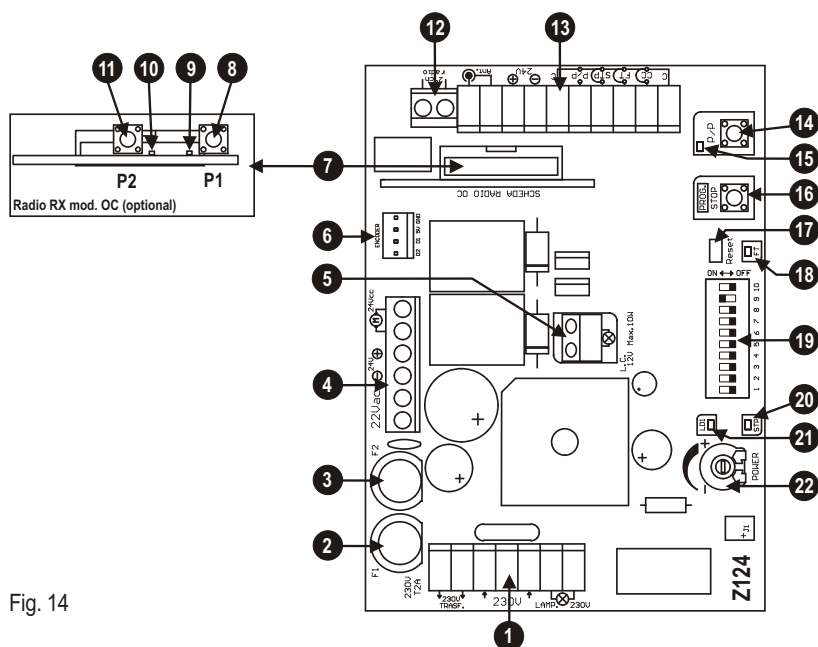

Fig. 14
- 1) Keep the PROG key pressed. Use a screwdriver to short the jump Reset (detail 17 of fig. 14).
- 9) To return to normal operating mode, reset the control unit (short the connector, detail 17 of fig.14)
During the self-learning phase, the key S/S is pressed repeatedly (detail 14 of fig 14), alternatively the control S/S control can be used (terminal 14, fig. 15) or the radio transmitter memorised on the first channel of the receiver.